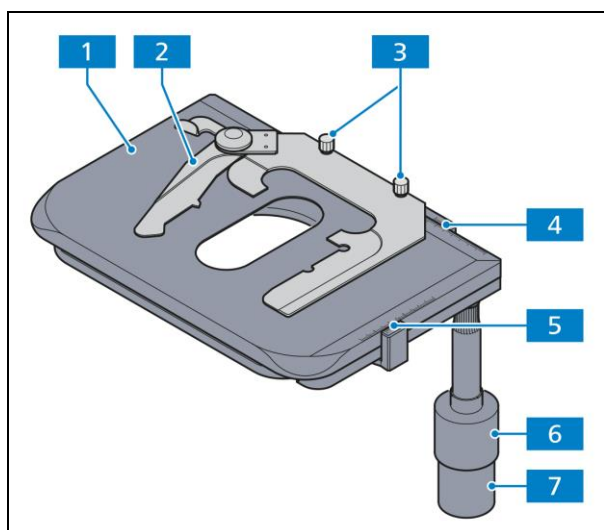

Fig. 2-13 Mechanical stage 75x50 R with specimen holder
- Rackless mechanical stage (Fig. 2-13/1) for holding and positioning specimens with a specimen holder.
- Specimen holder (Fig. 2-13/2) for single-handed operation (replaceable after loosening the two knurled screws, Fig. 2-13/3).
- Coaxial knurled knobs for X (Fig. 2-13/7) and Y adjustment (Fig. 2-13/6) on the right- or left-hand side, depending on the model (height and friction adjustable with dedicated tool).
- Vernier scale for display of the adjustment range in X (Fig. 2-13/4) and Y (Fig. 2-13/5) direction.